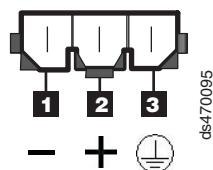

Figure 94. DC power supply connector - PIN positions
2. Connect the dc power cable to the power supply. See Figure 94 for the dc power supply connector PIN positions.